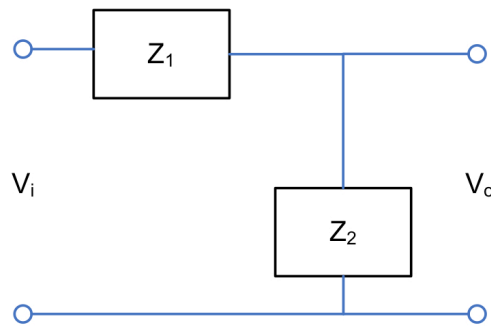

Figure 3.2: Generic Voltage Divider Circuit. V_i is the input voltage and V_o is the output voltage
- Use the color-coded resistors given to you to build a voltage divider circuit (as shown in Figure 3.2), which reduces by half the amplitude of the voltage waveform generated by the microcontroller. For obtaining the resistance in ohms from the color-code, you may refer to: <http://www.hobby-hour.com/electronics/resistorcalculator.php>. Observe the input and output waveforms on the two-channel oscilloscope.
- Insert the given combination of resistor (Z_1) and capacitor (Z_2) as shown in Figure 3.2. Use the resistor with $R = 50 \text{ k}\Omega$.